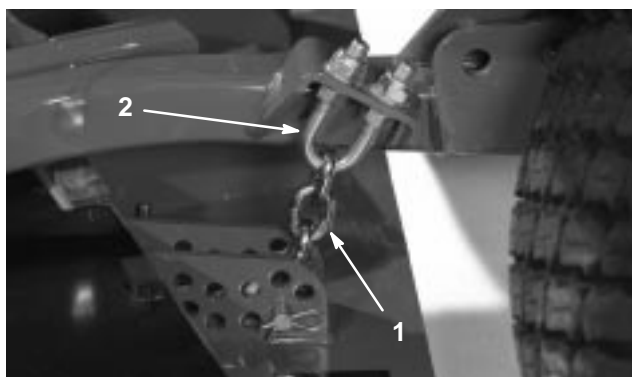

Figure 81
1. Loosen the jam nuts on the top or bottom of the height-of-cut chain u-bolt (Fig. 81).